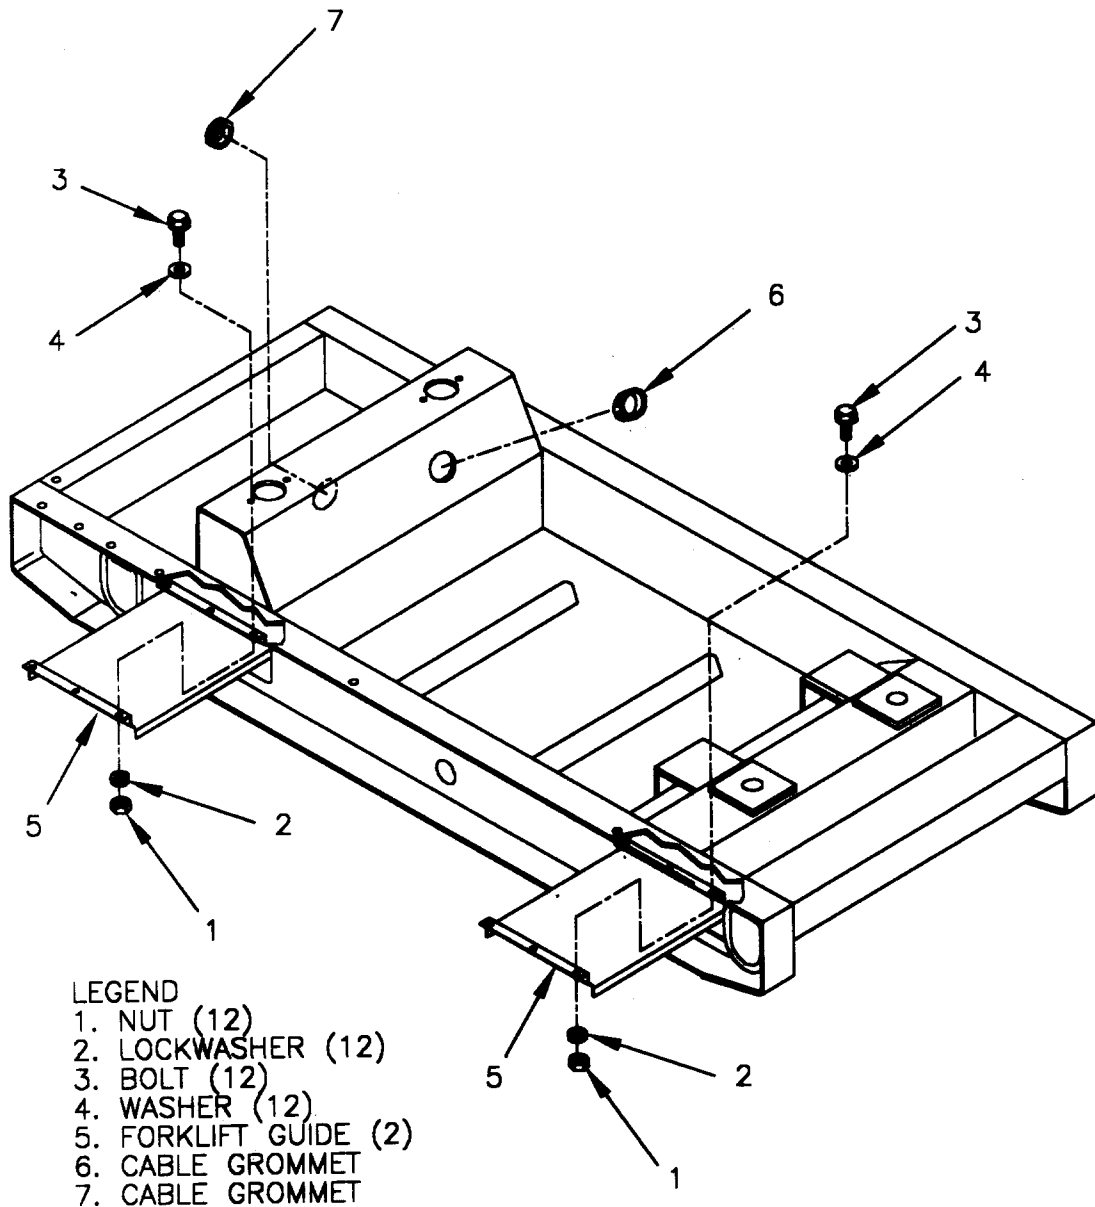

FIGURE 5-13. SKID BASE
- (1) Shut down generator set, paragraph 2.11.2.
- (2) Remove engine and generator assembly, paragraph 5.4.2.
- (3) Remove fuel tank, paragraph 5.7.1.
- (4) Remove nuts (1, Figure 5-13), lockwashers (2), bolts (3), washers (4), and forklift guides (5) from skid base.
- (5) Remove cable grommets (6 and 7) from skid base.
- (1) Install cable grommets (7 and 6, Figure 5-13) in skid base.
- (2) Install forklift guides (5), washers (4), bolts (3), lockwashers (2), and nuts (1) on skid base.
- (3) Install fuel tank, paragraph 5.7.1.
- (4) Install engine and generator assembly, paragraph 5.4.2.